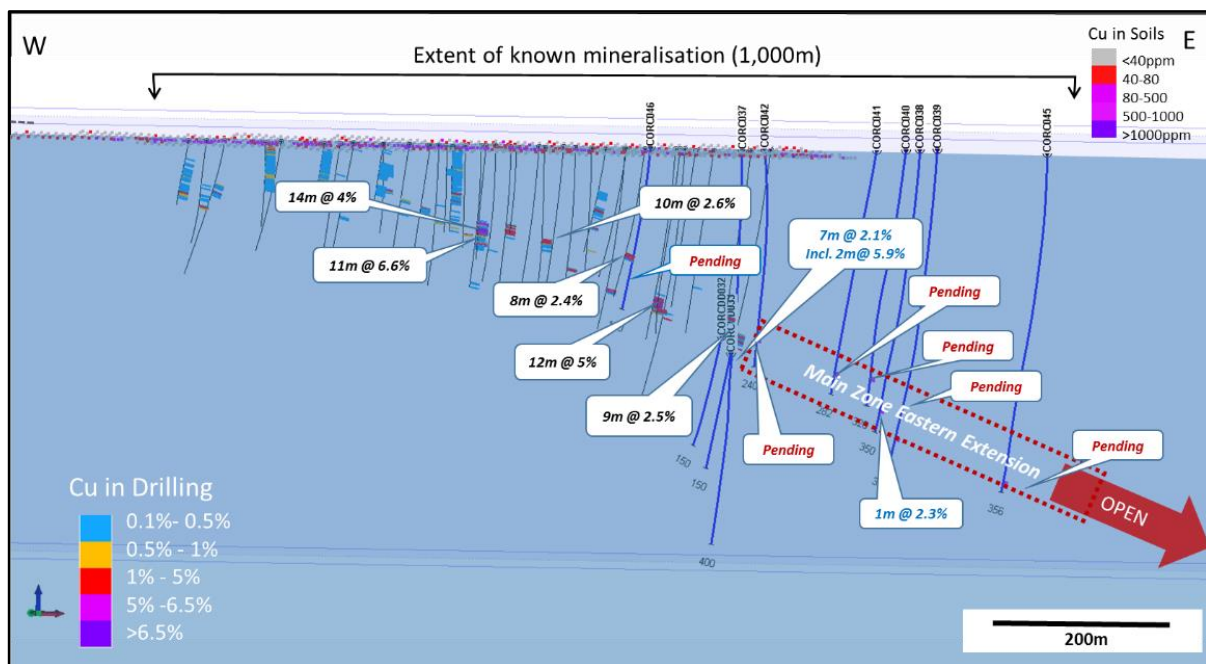

Figure 1: 3D schematic showing drill locations on eastern extension of main mineralised zone at Collerina
- Drilling of the main mineralised zone at the Collerina Copper-Zinc Prospect has continued to intersect sulphide mineralisation, extending mineralisation to 1,000 metres (refer Figure 1).
The Company is very encouraged at the presence of sulphide mineralisation at predictable depths within the targeted corridor (Refer Figure 1). The geological controls on the main mineralised zone are now well understood with a foot-wall marker horizon consistently being intersected 10-20m below mineralisation, providing a good geological control within the Prospect.